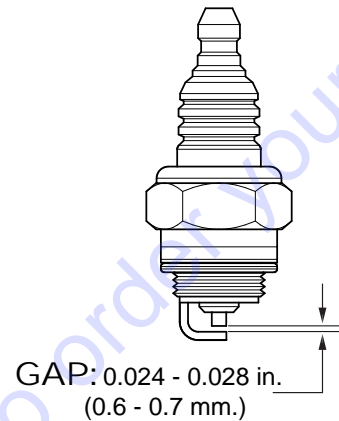

Figure 34. Spark Plug Gap
- Remove and clean the spark plug (Figure 34), then adjust the spark gap to 0.024 ~0.028 inch (0.6~0.7 mm). This unit has electronic ignition, which requires no adjustments.